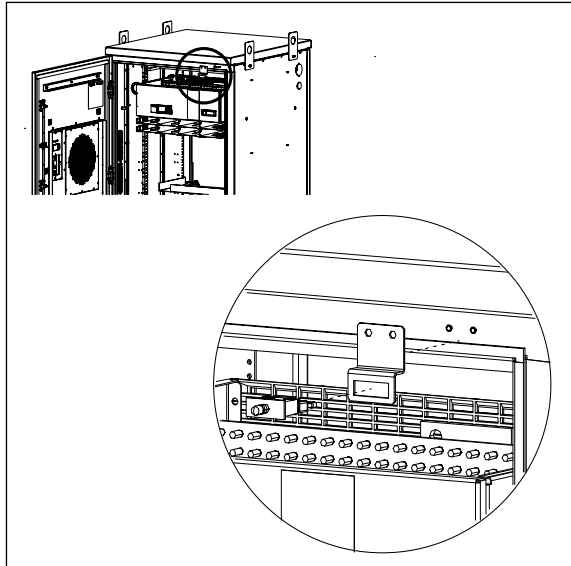

Figure 8 Remove Mounting Plate from CUBE
1. Open the front door, verify the breaker for the door lights is off, and remove the intrusion alarm and light wiring from the door intrusion switch by pulling the connectors. Remove the switch from the existing mounting plate (Figure 8). Set the switch aside for re-installation.